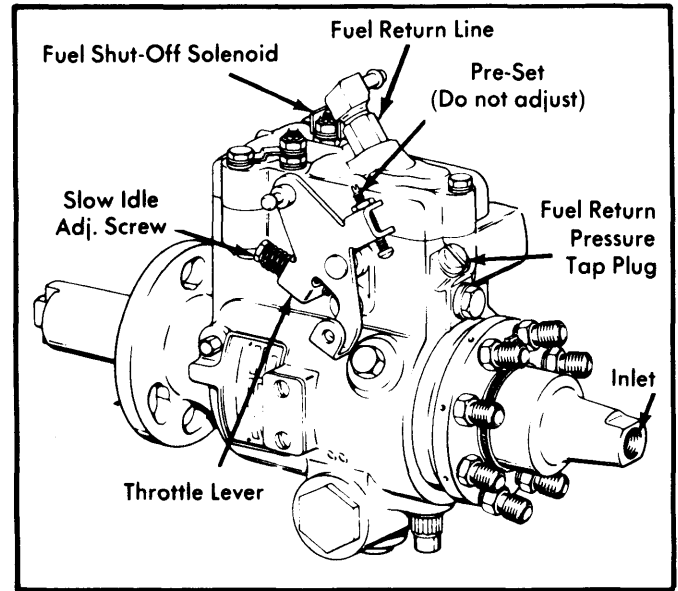

Fig. 5 Diesel Injection Pump Adjustment Locations
2) Adjust slow idle screw on injection pump to obtain 600 RPM. Automatic transmission should be in "D" and A/C "OFF". See Fig. 5.
- 1) Remove air crossover. Install screened covers (J-26996-2). Remove fuel return pressure tap plug. See Fig. 5.